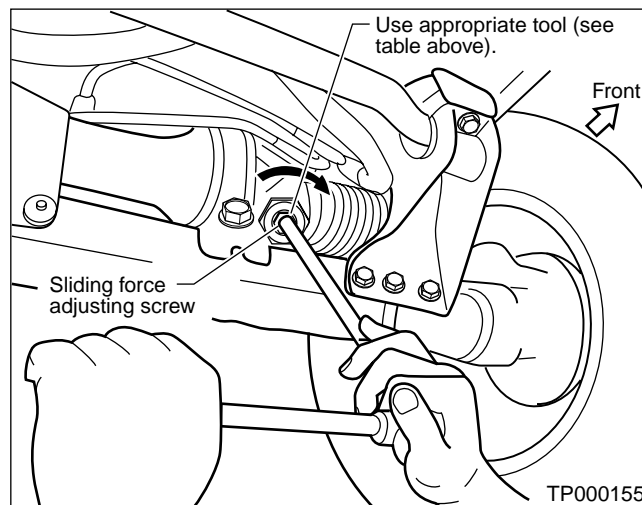

Figure 6
2. Tighten the sliding force adjusting screw slightly then re-tighten the lock nut while holding the adjusting screw (see Figure 6).